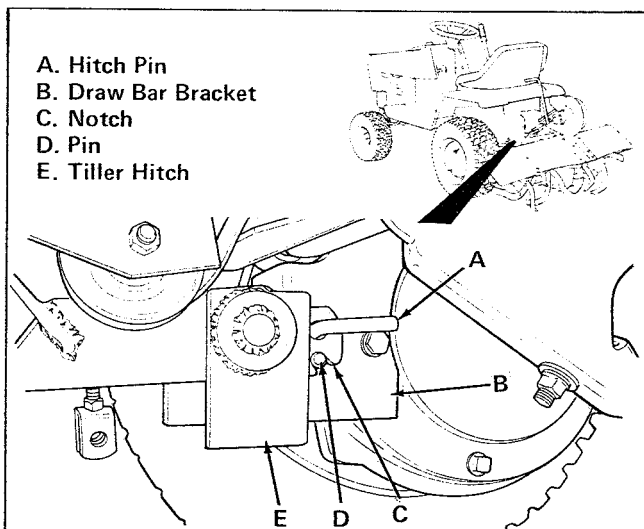

Figure 1. Attach Tiller Hitch to Tractor
3. Hook notches (item C, figure 1) in tiller hitch (item E) over pins (item D) on tractor draw bar bracket (item B).
5. Remove spring clip and hitch pin (item A, figure 1). Then detach tiller hitch from tractor hitch. To prevent loss, install hitch pin and spring clip on tiller hitch.